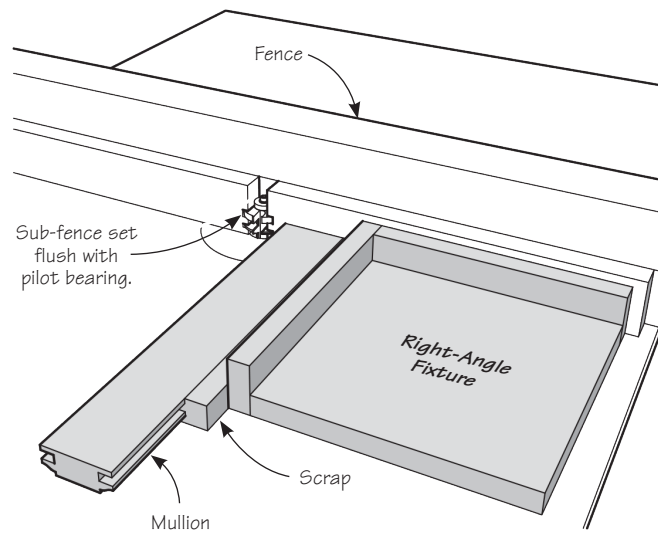

Figure 5: Using a right-angle fixture.
5. Use a right-angle fixture to guide the ends of the rails and mullions through the router (see **Figure 5**). Use a scrap piece of stock with a coping cut along its length to support the rails and mullions to prevent tear-out.